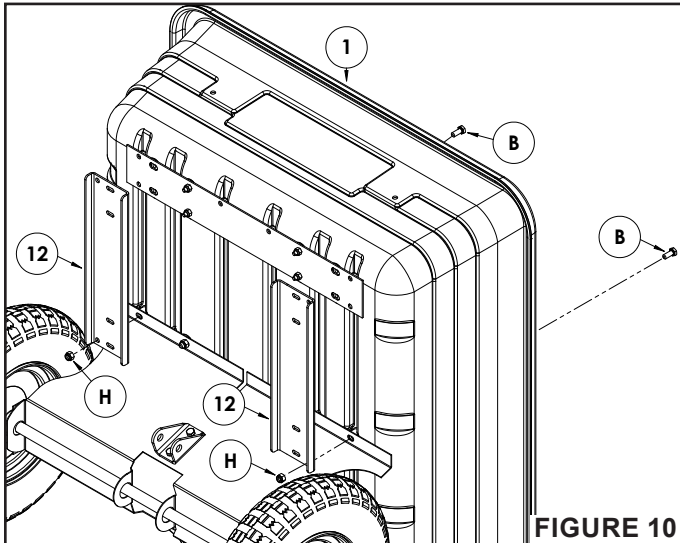

FIGURE 10
- Install two 1/4" bolts (A) into the inner two holes on the poly tray (1) and into the holes on the latch stand plate (3) as shown below.
- Secure with two 1/4" nylock nuts (F).
STEP 10: (SEE FIGURE 10)
- Install a 5/16" bolt (B) into the outer right hole on the third row of holes down on the poly tray (1) and into the hole on the wheel support (2) as shown below.
- Install the front support bracket (12) onto the 5/16" bolt (B).
- Secure with a 5/16" nylock nut (H).